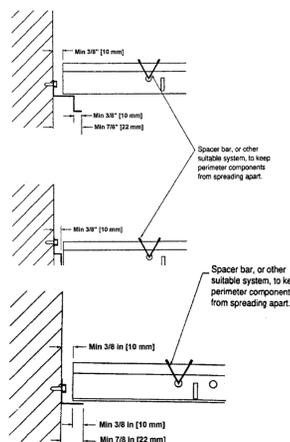
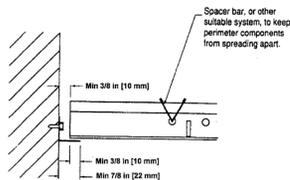

FIG. 2 Category C Treatment of Cross Runners and Main Runners at Terminal Ends When Using Reveal (Shadow) Edge Wall Closures
FIG. 1 Category C Treatment of Cross Runners, Main Runners, and Wall Closures at Terminal Ends
4.2.4 The terminal ends of suspension members shall have a minimum of $\frac{3}{8}$ -in. [9.5-mm] clearance from the wall as shown in Fig. 1. Reveal (shadow) edge wall closures with these clearances are shown in Fig. 2.